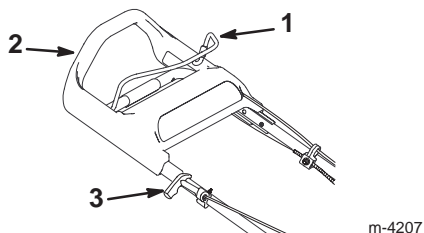

Figure 10
The starter handle and the blade control bail are on the upper handle as shown in Figure 10.
- **Manual Starting**—Pull the starter handle lightly until you feel resistance, then pull it sharply (Fig. 10). Allow the rope to return to the handle slowly.